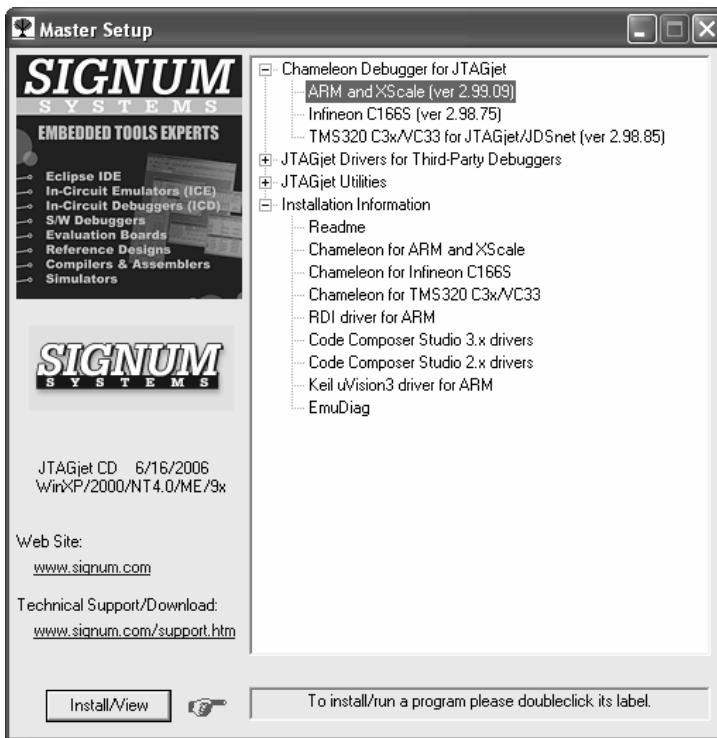

FIGURE 1 Chameleon Master Setup window.
1. Insert the JTAGjet CD into your CD drive. From the Master Setup window, select Chameleon Debugger, and double-click ARM and XScale, as shown in Figure 1. (This selection includes the TI OMAP processor family.)
In the **Target name** text box, enter a name corresponding to your target board. The default name is “ARM” (see Figure 1), but your board’s name or the project’s title should provide a naming cue for differentiating the board from other ARM target boards, if any. Click OK. In the dialog box that appears, select the communication port used by the JTAGjet emulator.